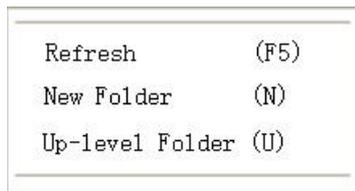

Figure 4-22C
- ① Open File: Open the selected file to the workspace.
- ② Delete File: Delete the selected file.
- ③ Rename File: Rename the selected file.
- 3)Right-click the menu in the blank area (Figure 4-22C).